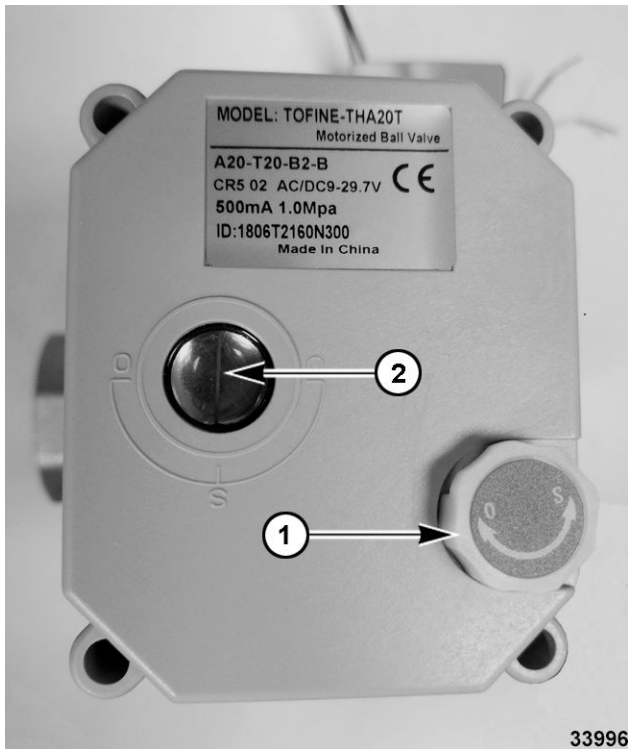

Fig. 35
- A. Pull knob (1, Fig. 35) out and turn while watching indicator window. Verify red line inside indicator window (2, Fig. 35) is vertical (closed position) with valve body.